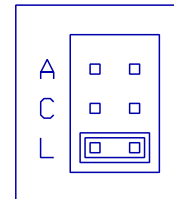

Figure 10 Peak Weighting Selection
3. Place the meter face up and remove the front cover. Locate the PEAK response jumper next to the A/C/PEAK switch. With a needle nosed pliers, remove the jumper and place it over the two posts for the desired response. See Figure 10.